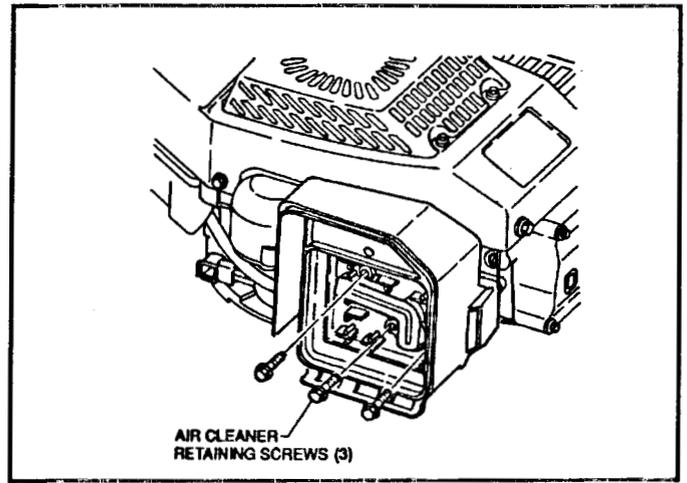

Figure 107
4. Secure the air cleaner body with three 5/16" hex, washer head shoulder screws. See Figure 107. Torque the screws to 35 in lbs (4 Nm).